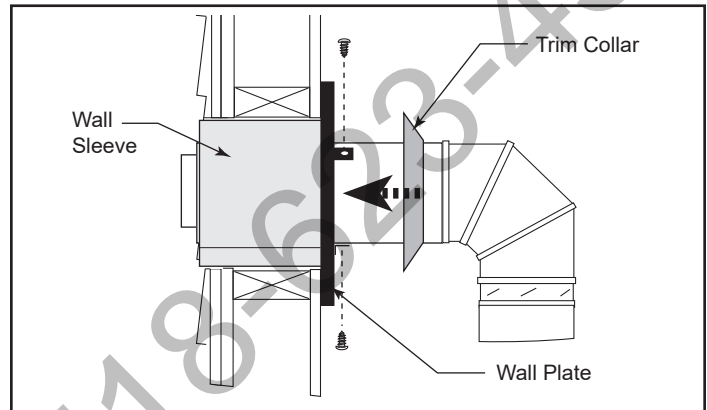

Figure 26 - Install the horizontal pipe and wall plate parts.
9. Seal the ends and connect the horizontal pipe to the elbow. Fasten the wall plate to the pipe with three sheet metal screws. Slide the trim collar up against the wall plate to cover the screws. (Figure 26)